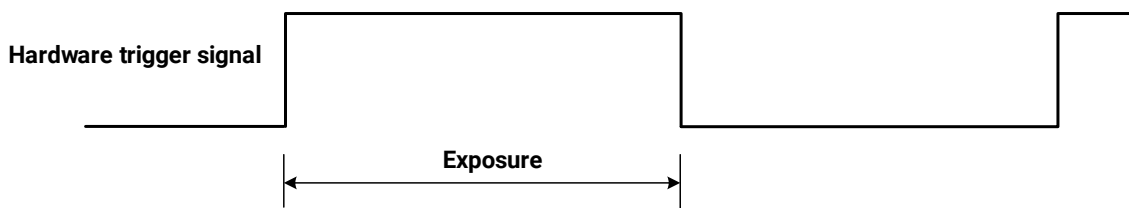

Figure 8-26 The sequence diagram in rising edge trigger of TriggerWidth exposure mode
- If rising edge triggering is enabled, exposure starts when the trigger signal rises and continue until the trigger signal falls, as shown in Figure 8-26